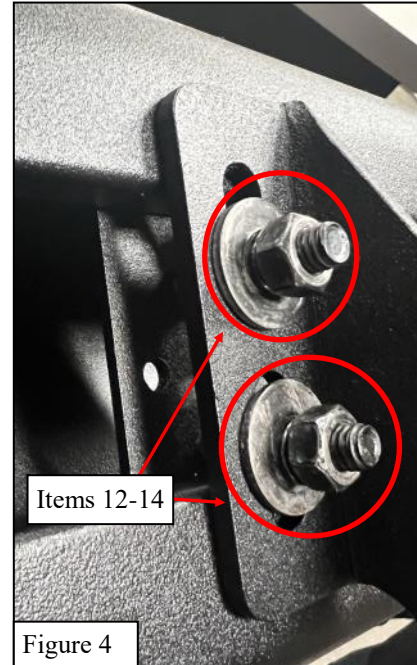

Figure 4
6. Install the running board onto the previously installed brackets using the supplied M8 hardware (Item 12-14). See **Figure 4**